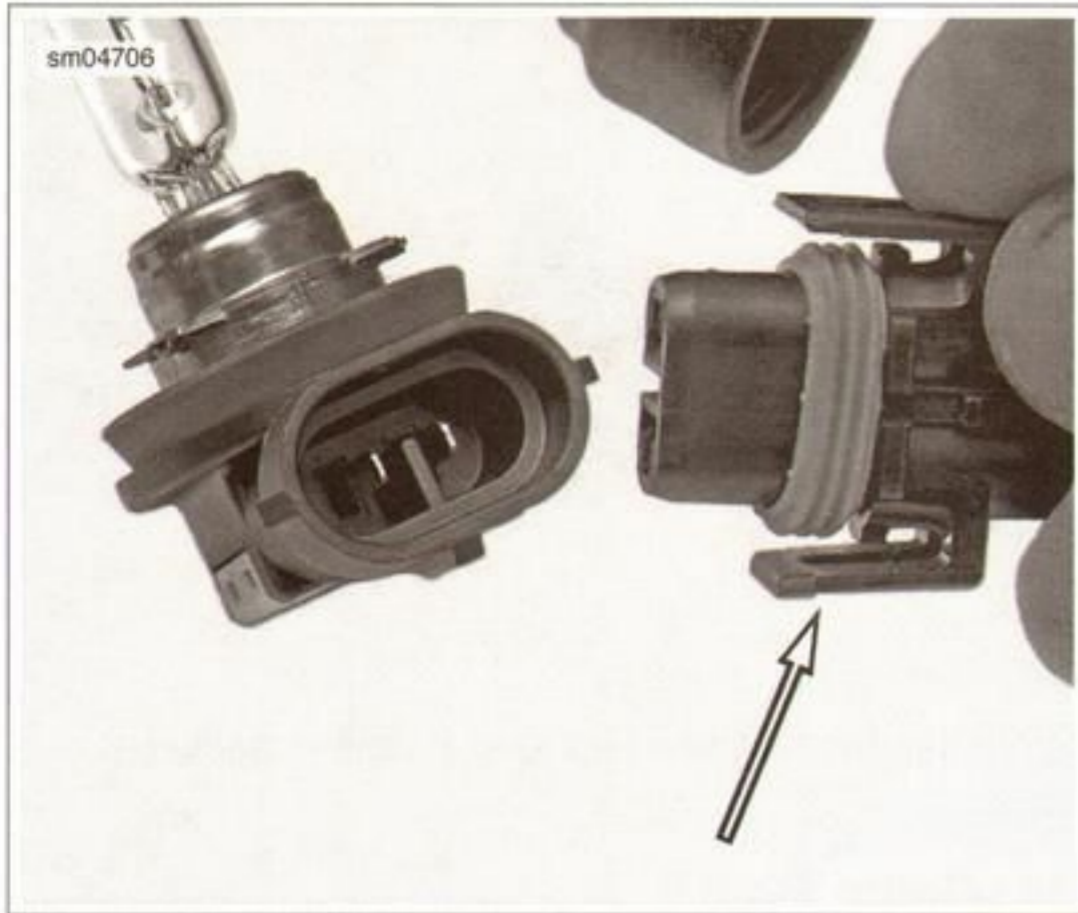

Figure 7-50. Headlamp Bulb Connector Latch
3. See Figure 7-50. Spread connector latches and remove bulb.